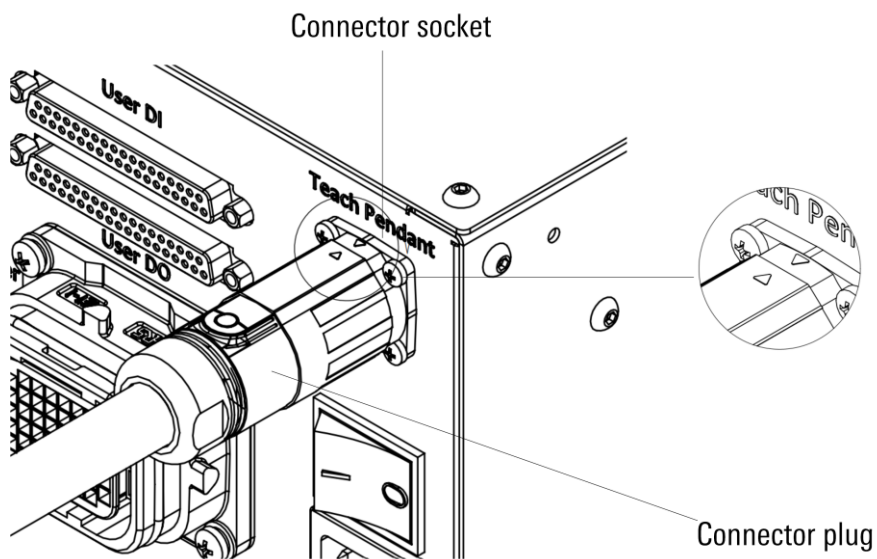

Figure 3-3 Teach pendant connection interface
The upper right corner of the front panel of the inCube2S-20 control cabinet is the teach pendant connection interface, which is connected by a quick-plug connector (see Figure 3-3).
Align the triangle symbol of the connector plug ① with the triangle symbol of the connector socket ② (as shown in the partial enlarged view of Figure 3-3), push in the connector plug ①, and rotate it 45° clockwise to make it align with the connector socket ② tight.